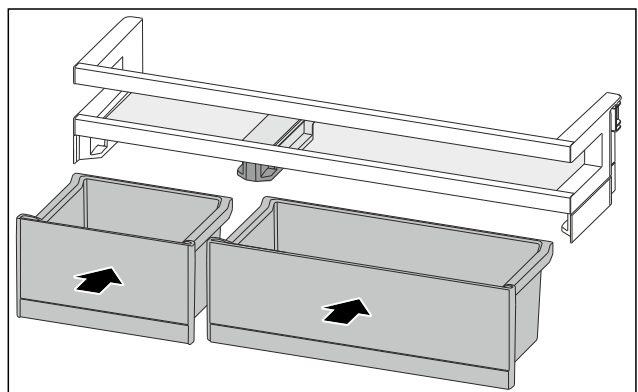

Fig. 127
- ▶ Insert the VarioBoxes in reverse order. (see Fig. 127)